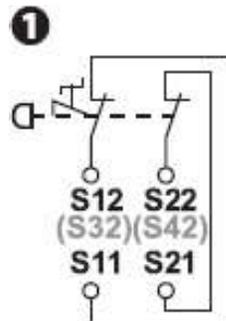

FIGURE 4-30. DUAL INPUT SAFETY RELAY
3. Set configuration: turn rotary switch to position 2. Refer to Figure 4-30.